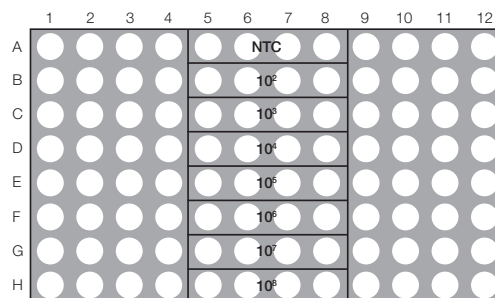

Fig. 1. 96-well plate layout — 20 μl /well.
1. Pipet four replicates of each reaction into a 96-well plate using 20 μl per well (Figure 1). Start pipeting the lowest concentration first, ending with the highest concentration. A 100 μl electronic repeat pipeter is helpful, but is not required.
1. Program the real-time PCR instrument using the appropriate plate layout (Figure 1 or 2) and the appropriate thermal cycling protocol for your instrument (Table 5).